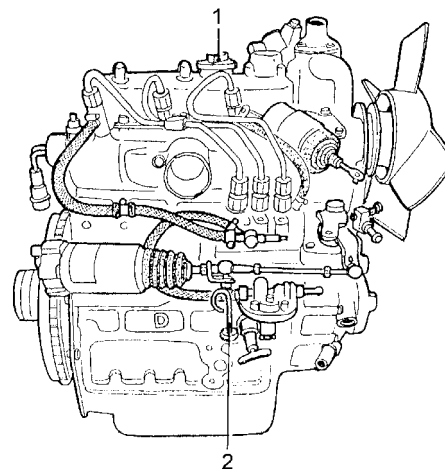

Fig. 3.2. Oil level check
3. Check the oil level in diesel motor from the oil stick (1), and add if necessary, fig. 3.2.